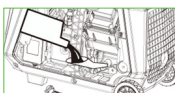
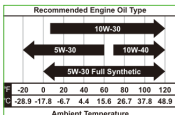

Fig.2
Fig.4
- Add 0.45 L of engine oil. (See recommended oil table, Fig. 4) (Fig. 2)
- Use the oil specified in the first start-up section (recommended oil table, Fig. 4).